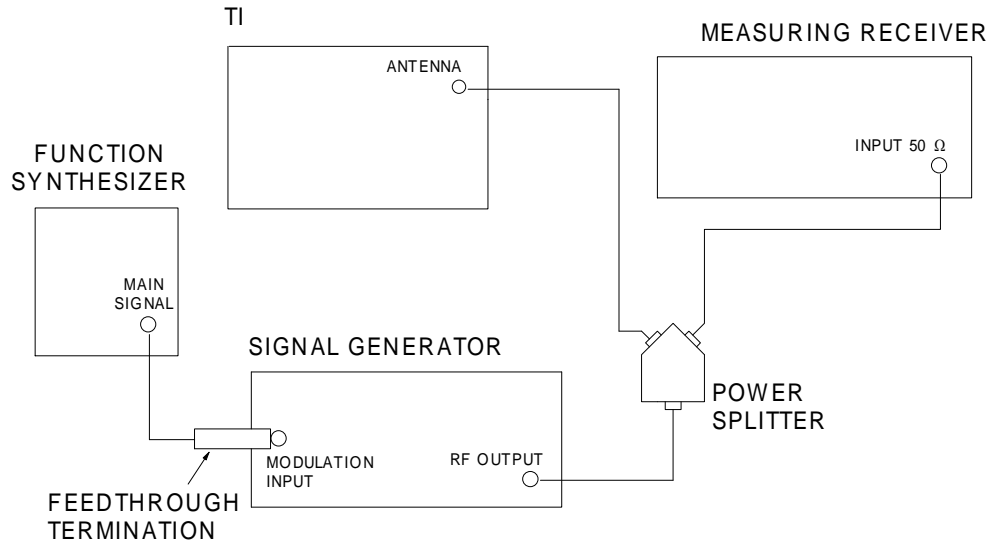

Figure 3.
4.4.2.1 Connect equipment as shown in Figure 3 Press Tx TEST, press SELECT and select the ANTENNA input.